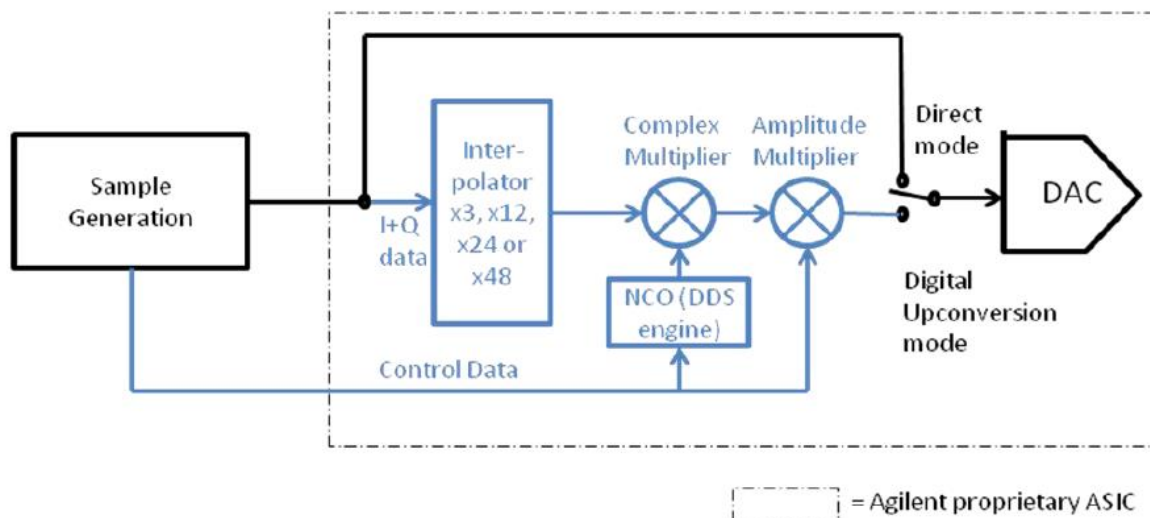

Figure 4-1: Hardware Structure of Features for Digital Up-Conversion
The M8190A provides a direct mode, which allows sending sample data from the sample memory directly to the output of the instrument. Additionally, it provides mechanisms to do IQ modulation internally (highlighted in blue in Figure 4-1). This includes the interpolation of IQ sample pairs from a low input data rate to the sampling rate of the instrument, the generation of a carrier frequency by a Numerically Controlled Oscillator (NCO) and the IQ modulation itself. Control data that is in time aligned to the sample data allows changing settings, like the NCO configuration, at run-time. Therefore, it is possible to change the carrier frequency, the phase and an amplitude multiplier in real time and sequence control. Complex operations, like a frequency sweep are also possible.
- Amplitude Table: stores multiplication factors for the amplitude multiplier (see Figure 4-1). For more details how to program an amplitude table, see :ATable Subsystem.